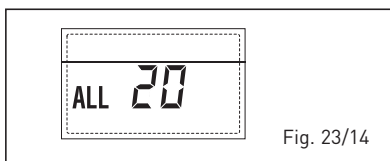

Fig. 23/14
- ANOMALIA GUASTO SONDA MANDATA PRIMA ZONA MISCELATA "ALL 21" (fig. 23/15)